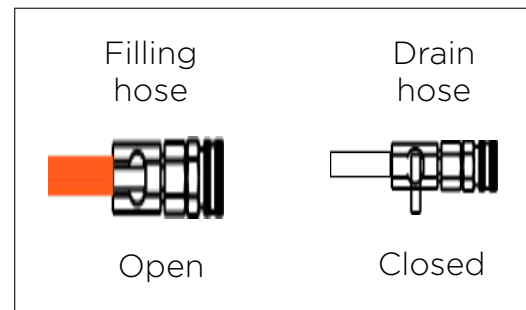
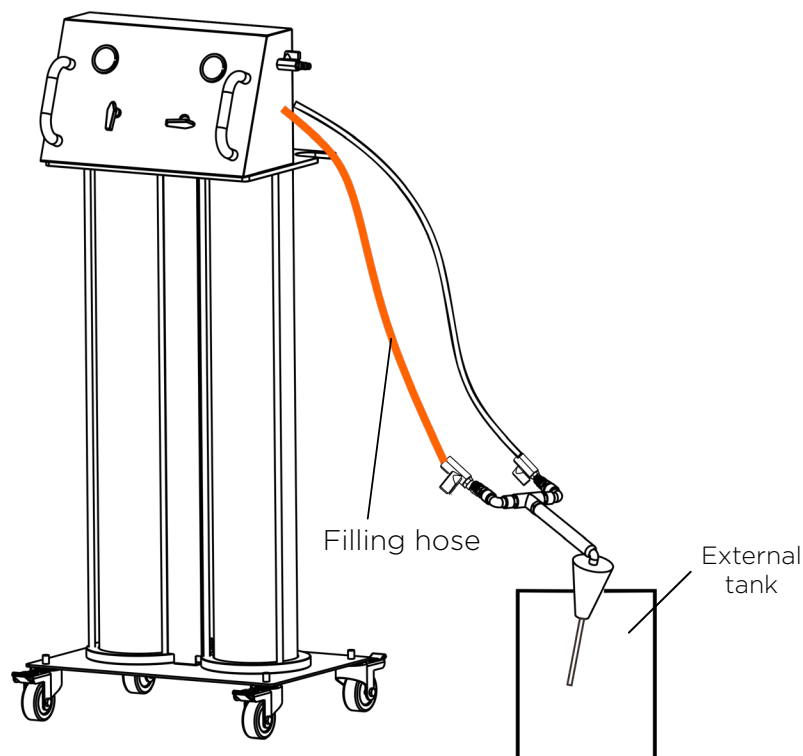

Fig. 17
Fig. 18
- Place the cone over the tank (Fig. 18) before opening the orange hose valve (Fig.17). Once the used fluid tank is completely empty, close the orange hose valve and turn all the valves on the front panel to the "OFF" position (Fig. 1 and 2).